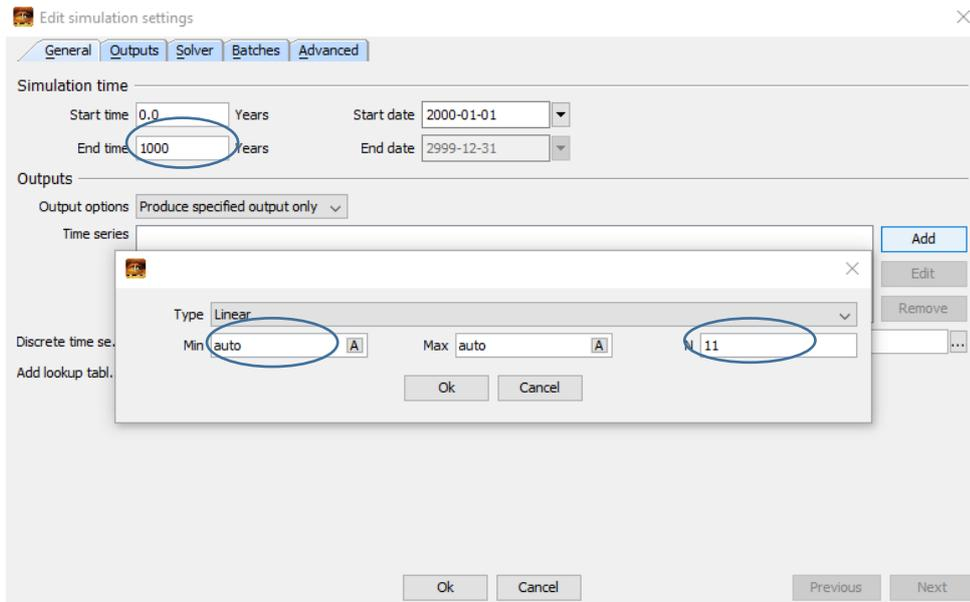

FIG 14. Adjusting of the ‘*Simulation time*’ and ‘*Outputs*’ parameters.
2. Set '*End time*' to 1000.0 ('*Years*') (FIG 14).
4. Press '*Add*' button at the right side of the '*Outputs*' window, choose '*Linear*' type of output in the menu that appears, and set '*N*' parameter specifying the number of output times to "11" (see FIG 14). (The output time step is calculated as (*Start time* – *End time*)/(*N*-1)). Press '*Ok*' button to close the window (s).